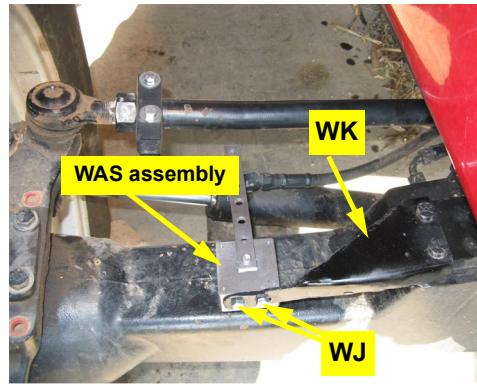

Figure 2d: Installed WAS assembly
- d. Attach the WAS assembly from steps 1a and 1b to bracket **WK** using hardware **WJ** with the WAS connector facing the center of the machine (Figure 2d).